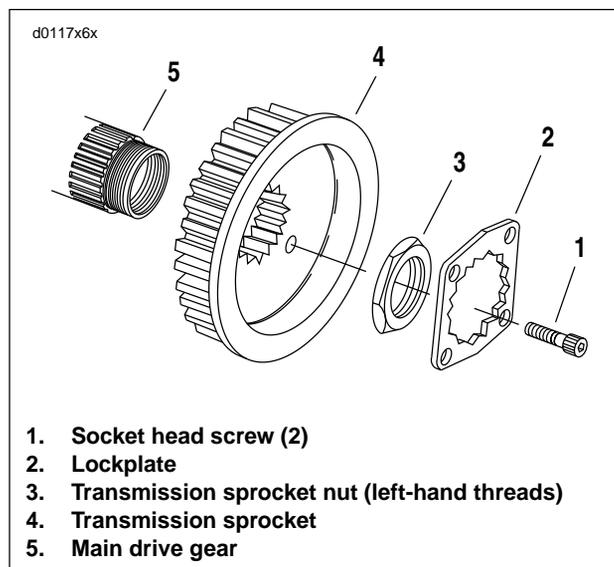

Figure 6-95. Transmission Sprocket
8. See Figure 6-95. Place transmission in first gear. Remove two socket head screws (1) and lockplate (2).
1. See Figure 6-95. Install transmission sprocket (4) with secondary drive belt onto main drive gear (5).
3. Apply a few drops of LOCTITE 262 (red) to the **left-hand threads** of transmission sprocket nut (3) and lightly coat the washer-faced side with clean H-D 20W50 engine oil. Wipe off any excess oil.
9. See Figure 6-95. Install lockplate over nut so that two of lockplate's four drilled holes (diagonally opposite) align with sprocket's two tapped holes.
10. See Figure 6-95. Install two socket head screws through aligned holes of lockplate and into tapped holes of sprocket. Tighten to 90-110 **in-lbs** (10.2-12.4 Nm).